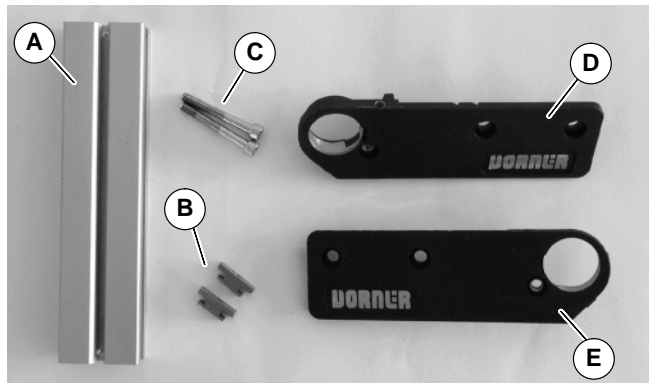

Figure 4
1. Gather components (Figure 4)
3. Remove bearings from conveyor headplates and install them into new headplates (D & E of Figure 4). See “Bearing Removal and Replacement” on page 14 of “2200 Series End Drive Conveyors” manual, part number 851-452.